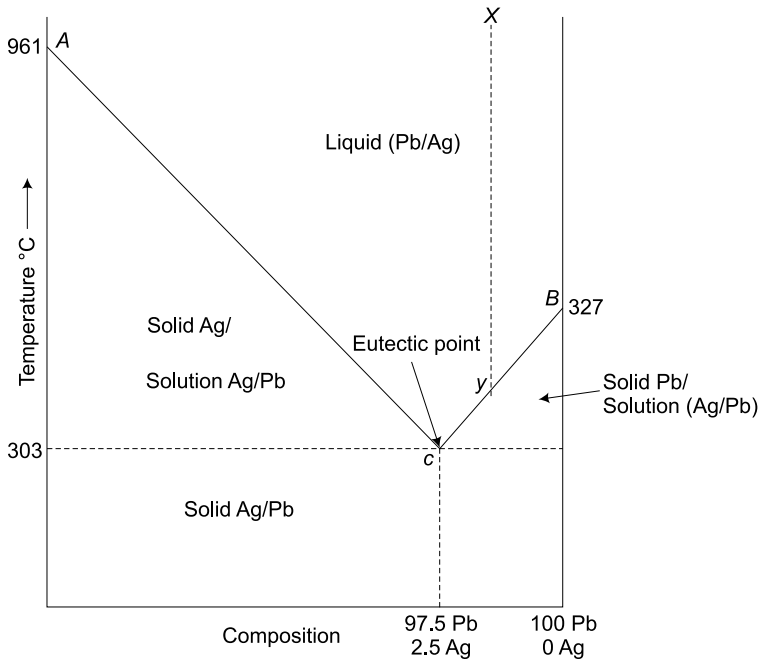

Fig. 6.3 The phase diagram of Ag/Pb system
Lead and silver considerably having high boiling points, so the vapour phase is practically absent. Thus, Ag/Pb is a condensed system with three phases. In such a case, pressure can have no effect on the system. Therefore, we need to consider only the two remaining variables, namely the temperature (T) and concentration (C). The complete PC diagram of the system Ag/Pb is in Fig. 6.3.